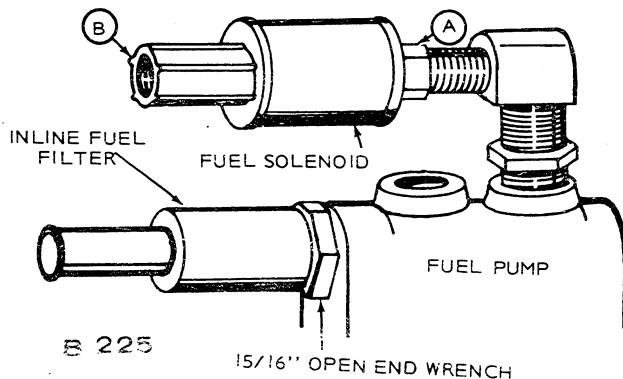

FIGURE 9. INLINE FUEL FILTER
**CAUTION** When removing or replacing fuel solenoid always use wrench on hex (A), Figure 9. Do not exert turning force on B because solenoid will be damaged internally.